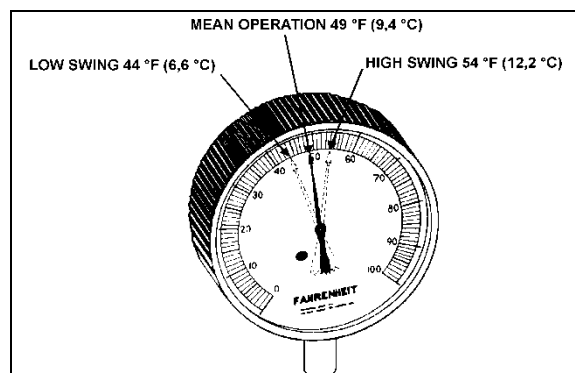

FIGURE 38: HIGH & LOW SWING TEMPERATURE AT REMOTE BULB 22047
6. Check approximately 5 readings of pressure at 2-minute intervals and convert to temperature using the vapor-pressure table. Likewise check the temperature reading at the remote bulb at the same 2-minute intervals and record the low and high swing readings of the needle (Figure 38).